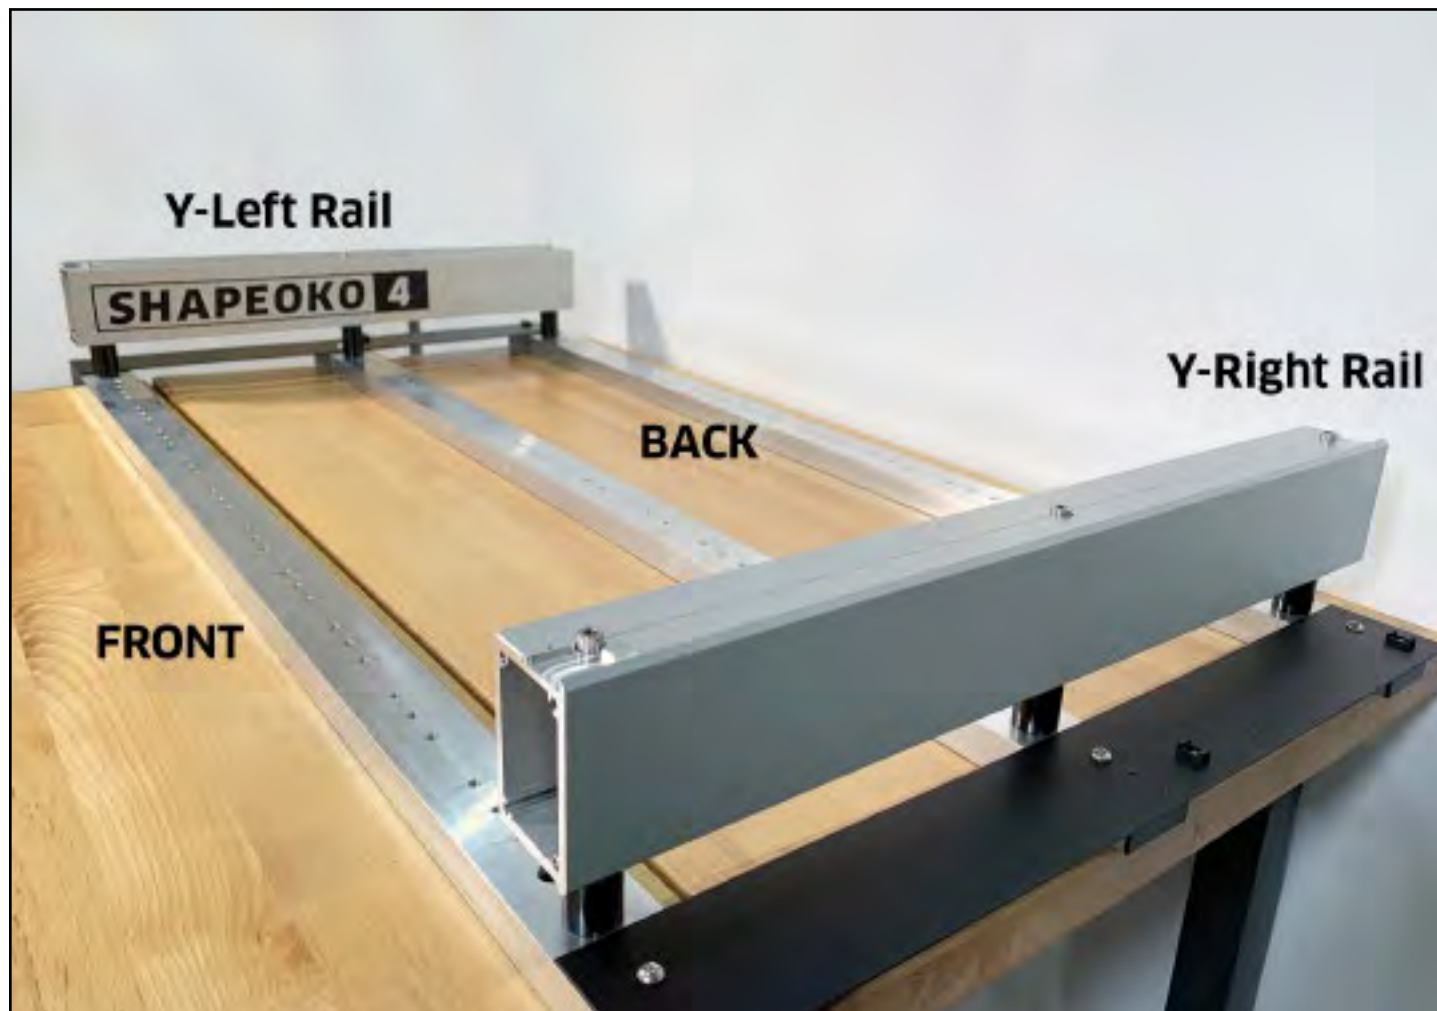

Figure 2-2
1. Position the Y-Left extrusion rail on the three standoffs on the left side of the baseframe. See **Fig. 2-2**.
2. Use a 5mm hex key and three (3) M6×85mm shoulder bolts to loosely attach the Y-Left rail to the standoffs. See **Fig. 2-2**.
1. Position the Y-Right extrusion rail on the three standoffs on the right side of the baseframe. See **Fig. 2-2**.
2. Use a 5mm hex key and three (3) M6×85mm shoulder bolts to loosely attach the Y-Right rail to the standoffs. See **Fig. 2-2**.